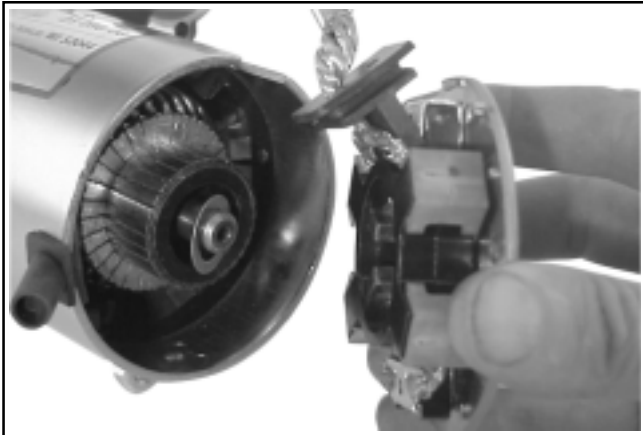

Figure 8-17. Removing Commutator End Plate Assembly.
5. Remove the commutator end plate assembly, containing the brush holder, brushes, springs, and locking caps. Remove the thrust washer from inside the commutator end. See Figure 8-17.